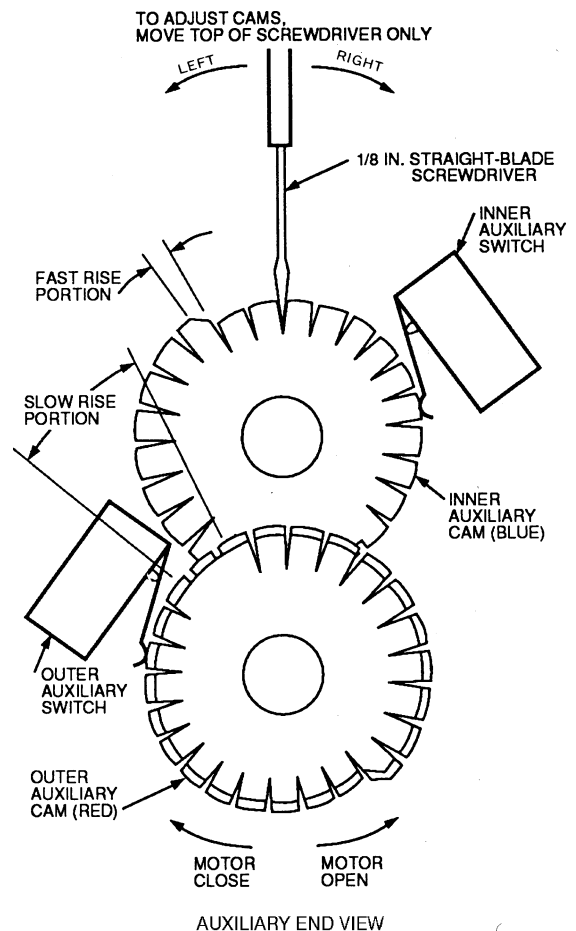

Fig. 84 — Auxiliary Switch Adjustment
4. Adjust auxiliary cam by inserting a $\frac{1}{8}$ -in. straight blade screwdriver into slot on cam and moving TOP of screwdriver to the right or left. See Fig. 84.